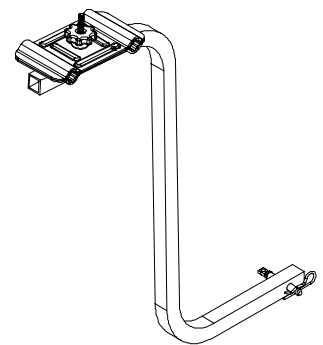

FIG 1
3. Fold the pad, bringing the long non adhesive sides together. Be sure that the bottom of the fold is the first part to contact the plate. Press the bottom of the pad firmly into the bottom of the plate. See FIG 1.
4. Slowly release the sides of the pad from the bottom to the top of the sides. The pad should not have any air gaps under the adhesive. See FIG 1.